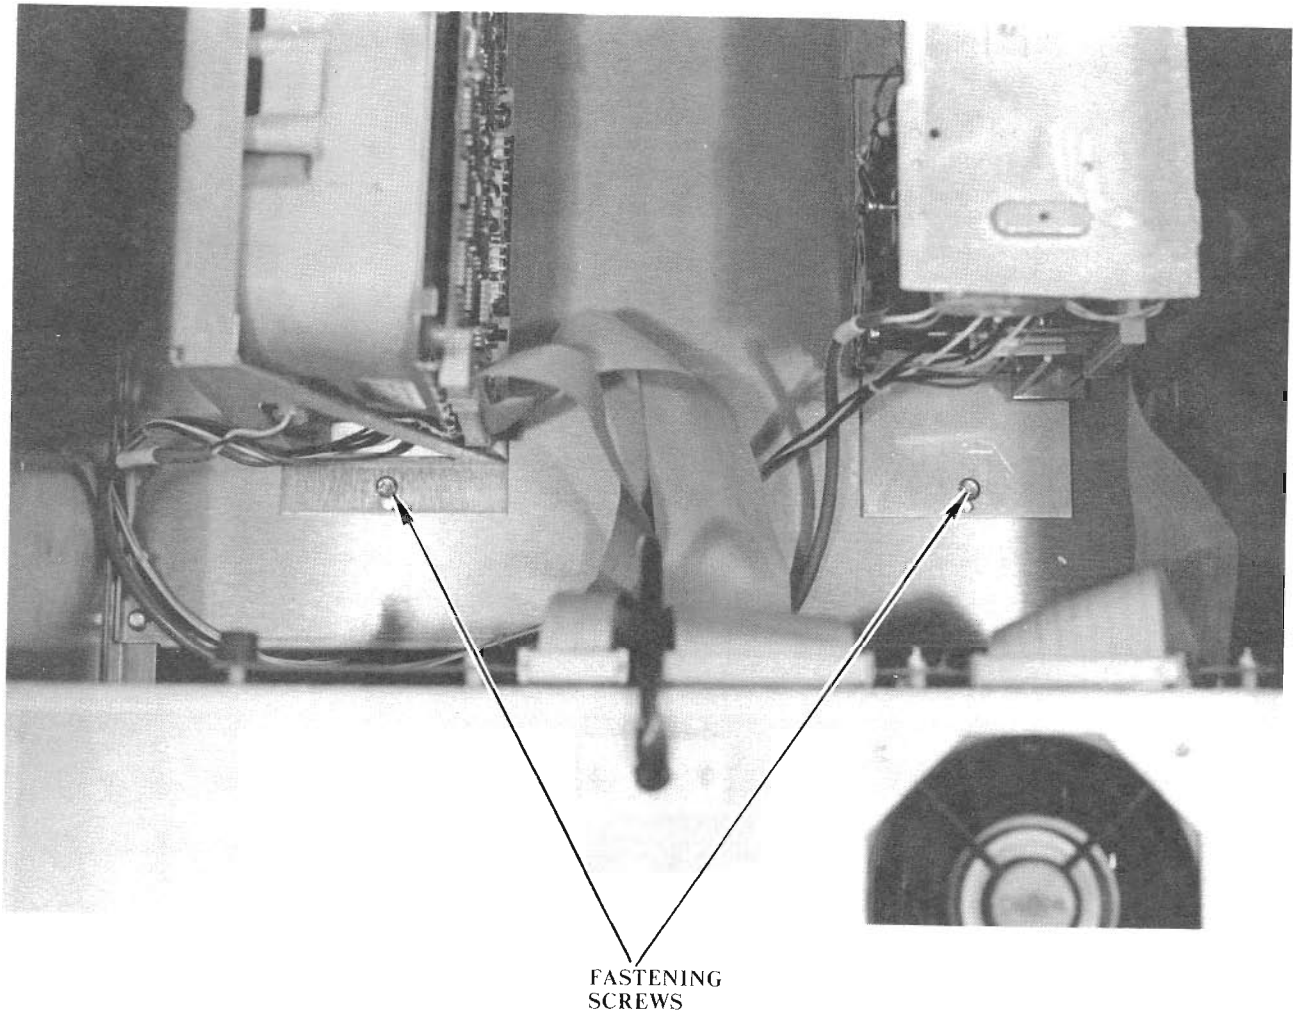

FIGURE 11-5 DISK DRIVE FASTENING SCREWS
5. Remove the 5/16" screws (ref: FIGURE 11-5) from the rear of the drive mounting plates and lift the drives back, up and out of the cabinet.